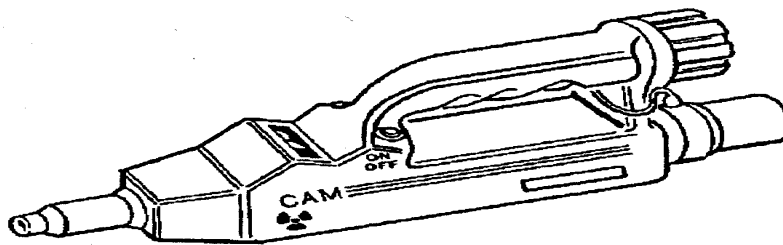

Figure 6-9. Chemical Agent Monitor
b. The chemical agent monitor (CAM) (Figure 6-9) is designed to be used to detect chemical agent vapor and provide a readout of the relative concentration of vapor present. It can be employed to monitor-